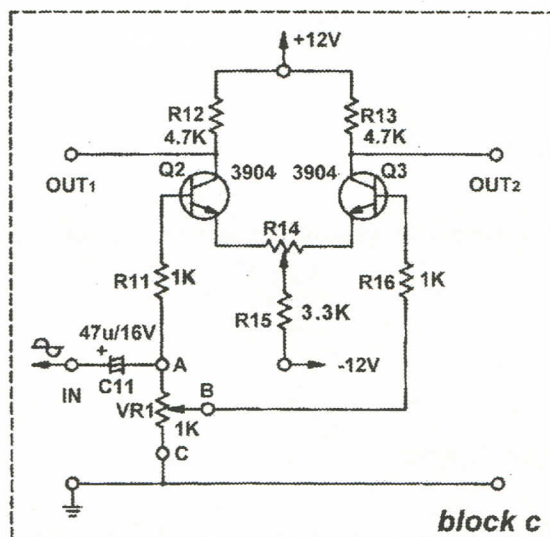

Fig. 14-20 (Fig 23012-block c)
- (1) Insert the short-circuit clip by referring to Fig 14-20 and the short-circuit clip arrangement diagram 23012-block c.
- (2) Connect the signal generator and oscilloscope to the input terminal, then connect the oscilloscope to the output terminal.
- (3) Adjust VR1 so that the resistance at points B and C will be the maximum ( $V_{in1} = V_{in2}$ ).
- (4) Adjust the output of the signal generator to 1KHz, then increase the amplitude so that the maximum non-distorted waveform of the output terminal can be displayed. Measure  $IN_1$ ,  $IN_2$ ,  $OUT_1$  and  $OUT_2$  respectively, and record the waveforms.
(5) Adjust VR1 so that the resistance at points B and C will be the minimum ( $0\Omega$ ) and  $V_{IN2} = 0V$ .
(6) Repeat Step (4).
(7) Adjust VR1 so that the resistance at points B and C will be  $500\Omega$  and  $V_{IN2} = 1/2 V_{IN1}$ .
(8) Repeat Step (4).